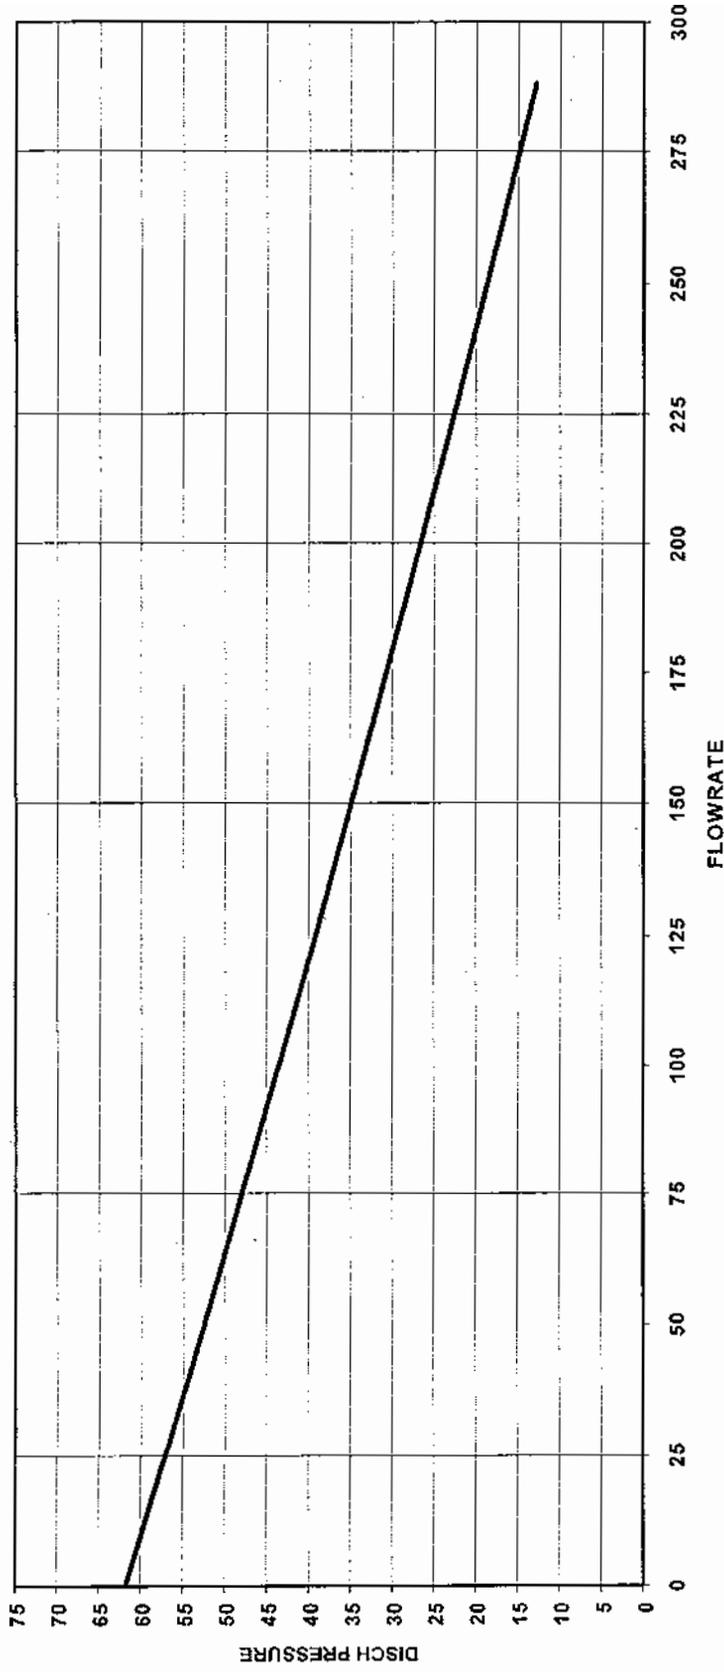

Figure D-14. USCG CCN150-5C Pump Curve for 16,000 cSt. Viscosity.
- Figure D-14 USCG CCN150-5C Pump Curve for 16,000 cSt. Viscosity